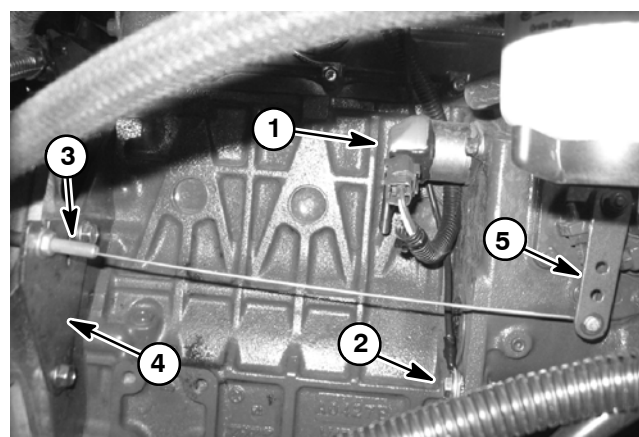
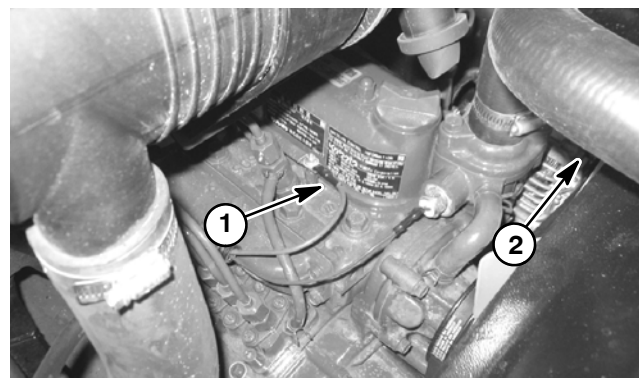
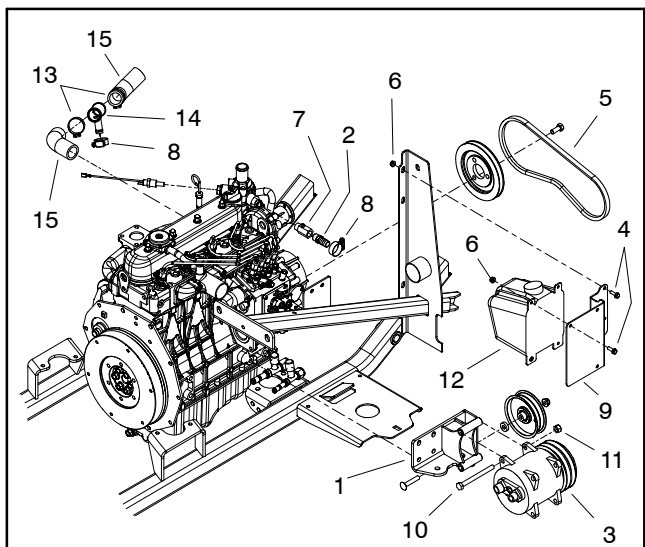

Figure 10
Figure 11
Figure 14
- A. Negative battery cable, wire harness ground and fuel stop solenoid (Fig. 10).
- B. Glow plug bus (Fig. 11).
10. Disconnect throttle cable from the throttle bracket and the speed control lever (Fig. 10). Position cable away from engine.
11. Remove two (2) flange head screws that secure throttle bracket to engine. Remove bracket from engine.
14. On machines with an operator cab (Fig. 14):
9. Secure flywheel housing and fuel/water separator bracket to engine endplate with eight (8) flange head screws and two (2) socket head screws.
10. Secure engine to the engine mounts attached to the frame with two (2) cap screws, snubbing washers and lock nuts.
11. Connect fuel hoses to the fuel/water separator (Fig. 10). Connect return fuel hose to front injector nozzle (Fig. 11).
12. On machines with an operator cab (Fig. 14):